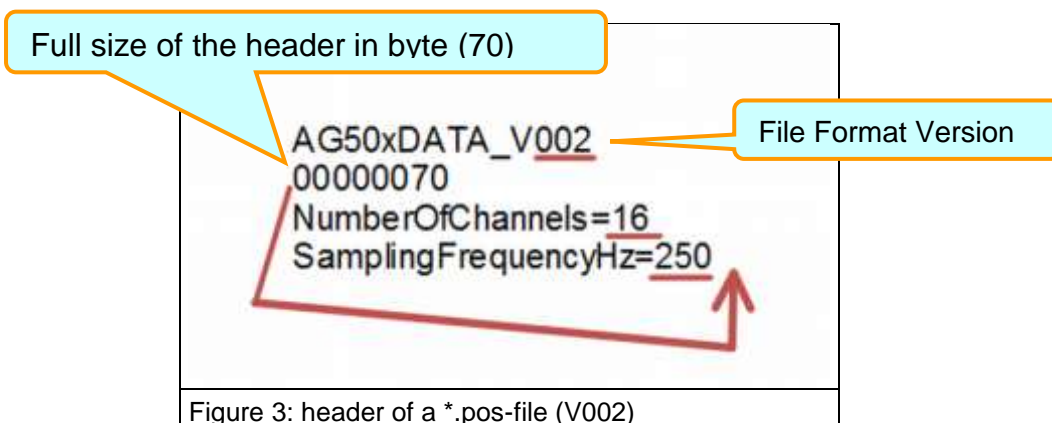

Figure 3: header of a *.pos-file (V002)
The header section starts with two lines containing the AG50x-file-format version (AG50xDATA_V002) in the first line and the full size of the header section as an eight digit number (70 bytes in Figure 3) in the second line. Since each line of the header section is terminated by a line feed (LF), these two lines make up the first 24 bytes of the file.